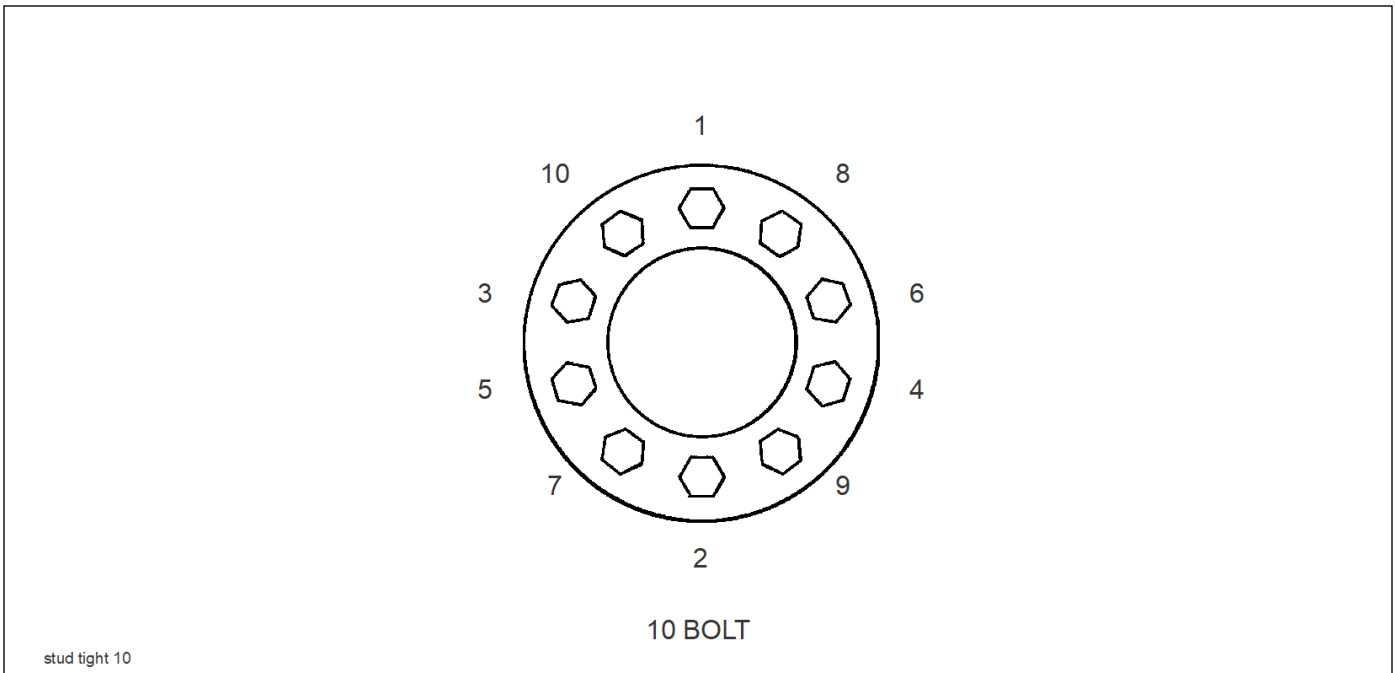

Figure 4-22: Stud Tightening Sequence
4. Install the flange nut (pilot mount) and tighten to 50 foot-pounds using the sequence in **Figure 4-22.** Then tighten to full torque of 450 to 500 foot-pounds.
| | Improper tightening sequence | Follow proper tightening sequence (See Figure 4-22.) |